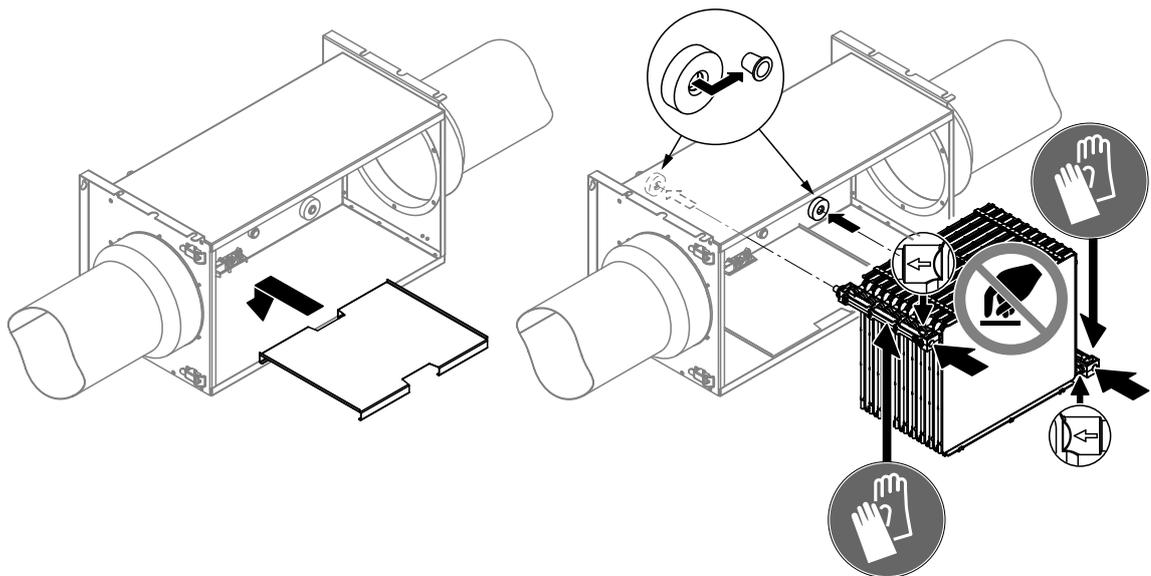

Fig. 24: Installing the base panel and humidifier insert
11. Insert the base panel into the humidifier housing (see Fig. 24).